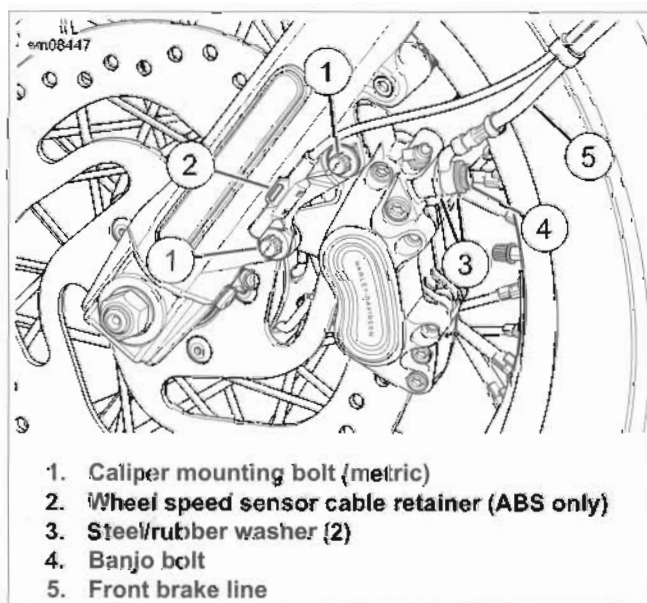

Figure 2-47. Front Brake Caliper
- See Figure 2-47. Attach caliper to fork leg.